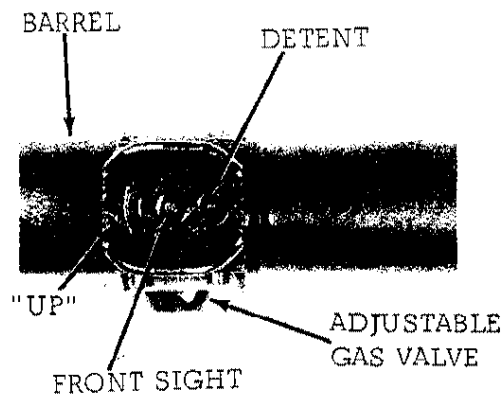

FIGURE 4. FRONT SIGHT
h. Front Sight. The elevation adjustment for zeroing the weapon is in the front sight base (figure 4), and adjustments are made by using the tip of a cartridge. To raise or lower the front sight post, depress the detent at the base of the front sight post and turn the post in the desired direction. To move the point of impact up, turn the sight post in the direction of the arrow and the word "UP" stamped on the base.